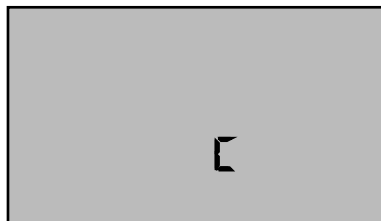

Figure 6
3. Press  repeatedly until you pass the memory "CLF ALL" location". The display will show a "C" or "F" (see Figures 6 & 7).